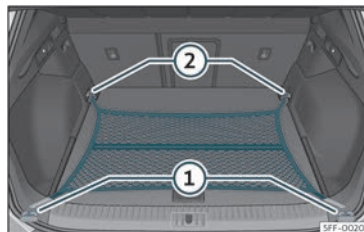

Fig. 116 In the luggage compartment: net bag hooked up at floor level.
- Secure the net hooks to the fastening rings ① and ② »» Fig. 116 »» ⚠. The bag zip should be facing upwards.